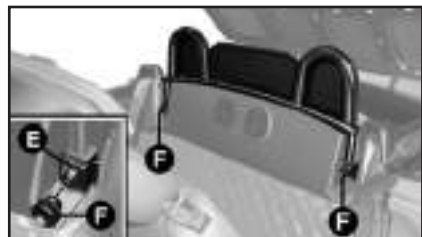

fig. 71
4) Position the cover **E**-**fig. 71** on the brackets **A** and **B** as shown in the figure. Then fasten knobs **F** on the supporting bracket screw.
- 1) Hold the bonnet up with one hand and, with the other, remove rod **A**-fig. 71 from recess **B** and replace it in its clip.